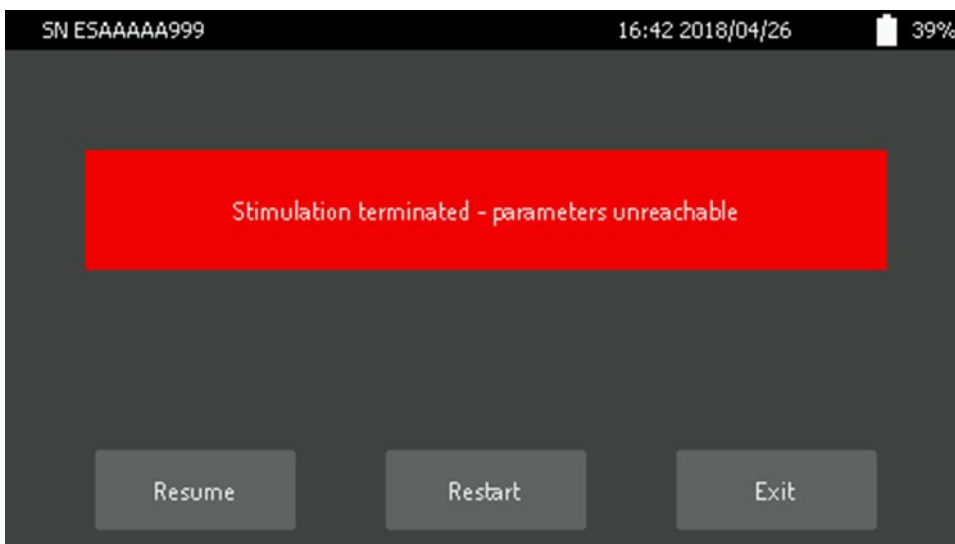

Figure 66. Stimulation terminated - parameters unreachable.
- parameters are unreachable (Figure 66),